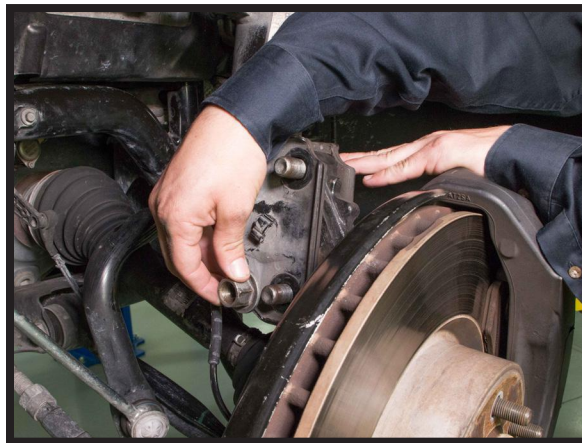

FIGURE 6
9. REMOVE THE TWO (2) LARGE BOLTS THAT HOLD THE STRUT TO THE SPINDLE ASSEMBLY. (FIGURE 6)